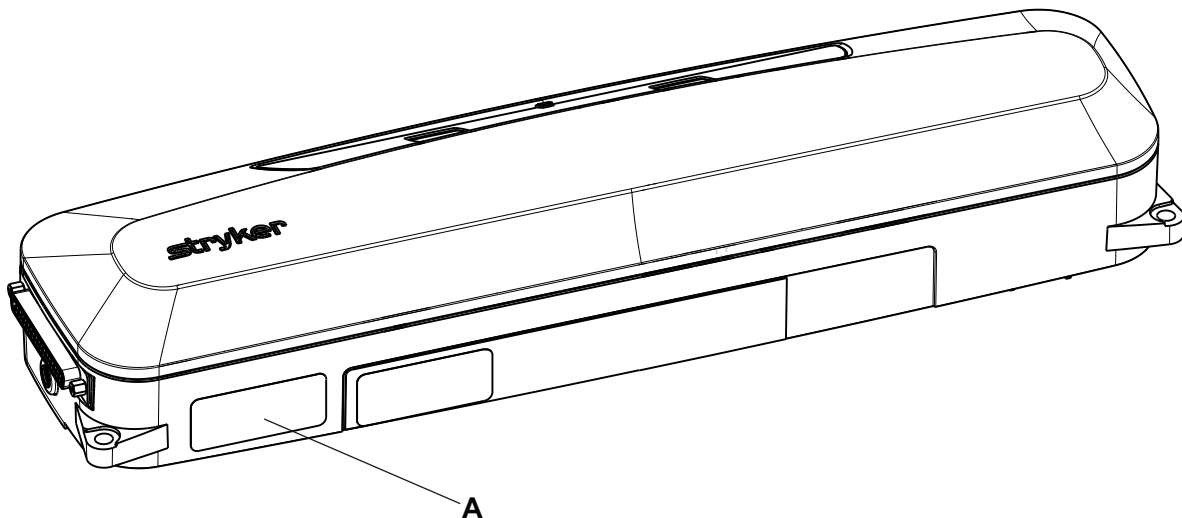

Figure 1 – Stryker serial number and BBID location
The Stryker serial number and bed bay identification number (BBID) label (A) is located on the bottom of the product (Figure 1).